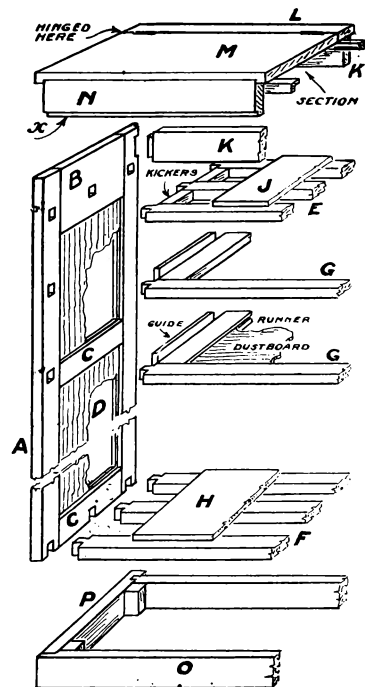

FIG. 3. CONSTRUCTION DETAILS
**Lid.**—The construction of this is seen in Fig. 3. The front edge of lid proper (M) is rebated to take the front (N). As already indicated, this front (N) is rebated to agree with grooves (x) cut in ends. The lid is hinged (with a pair of 2 in. brass butts) to its fixed back strip